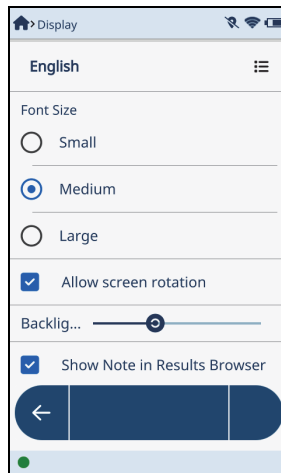

Figure 4-15 Display screen
1. Tap the **Display** button () in the **Menu Tray** to open the **Display** screen (see Figure 4-15 on page 125).